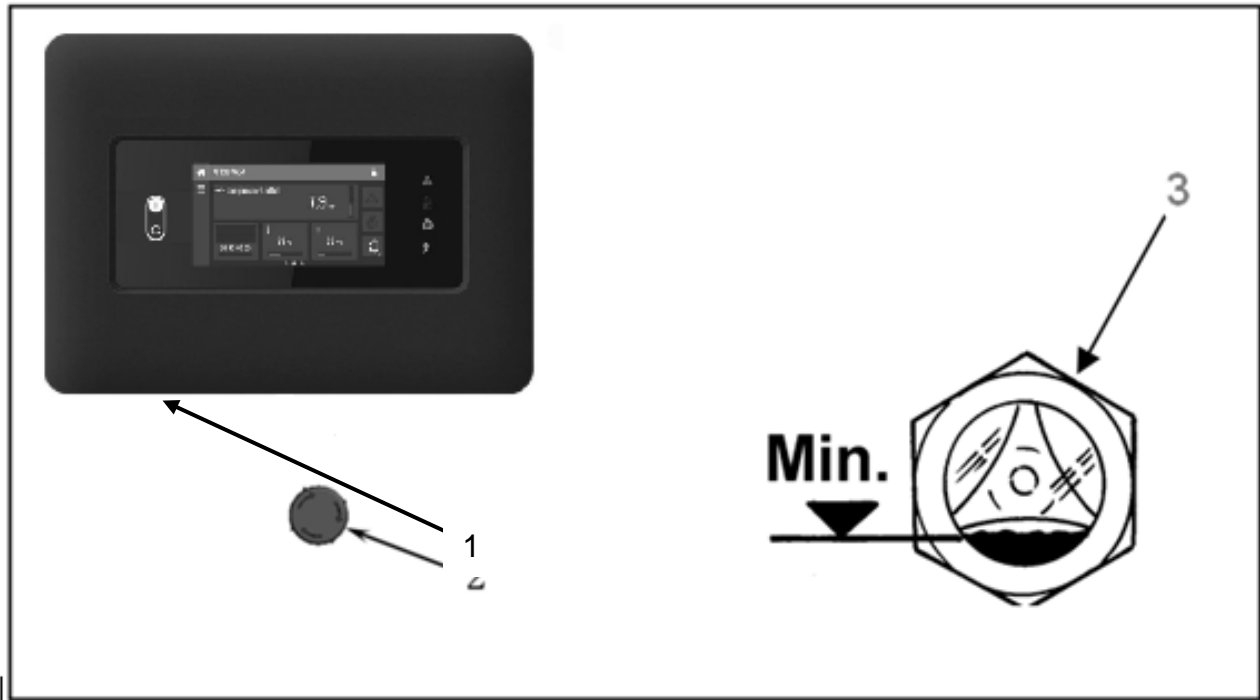

FIG.13
- Press the "STOP" button Ref. 1 FIG. 13
- Press the "EMERGENCY STOP" button Ref. 2 FIG. 13.
- Check the oil level on the indicator Ref. 3 FIG. 13
- Top up to maximum level Ref. 3 FIG. 13, with oil of the same type in the compressor.
- Press the "EMERGENCY STOP" button Ref. 2 FIG. 13
- Press the "STOP" button Ref. 1 FIG. 13.